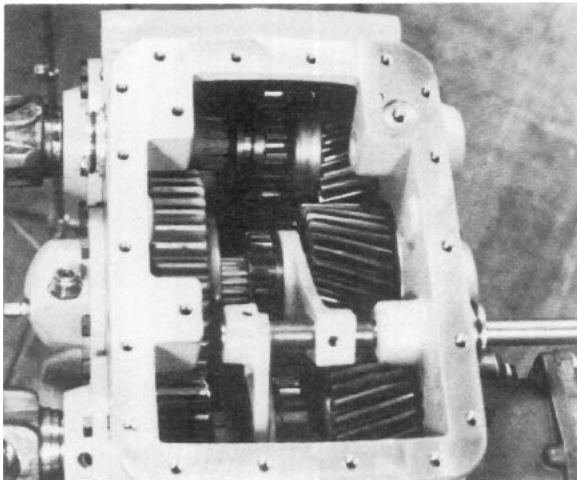

Fig. 35
5. Install the 75/8" overall length underdrive shift fork (Item 35); it should fit into the groove of the underdrive shift clutch (on the intermediate shaft) the long hub section should be facing the rear of the case. Insert the two-groove shift shaft (Item 36) into the adaptor tube (Item 15) at the rear of the case housing (see 1 of this section). Slide end of shift shaft into underdrive shift fork (Item 35). Put 57/8" overall length shift fork (direct drive shift fork— Item 34) long hub toward front of the case, into the case with the forks in the groove in the direct drive clutch on the input shaft. Push shift shaft through this fork (See Fig. 35) and into the hole in the front wall of the case housing. Push on the end of the piston and compress the spring until the piston butts against the nylon stop ring and the adaptor. This will allow the set screw in the underdrive shift fork (Item 35) to be tightened into the proper groove on the shift shaft. Rotate both shift forks in either direction but *in the same* direction and, with the second fork in the proper place longitudinally, tighten set screws to specified torque and install the lockwire.